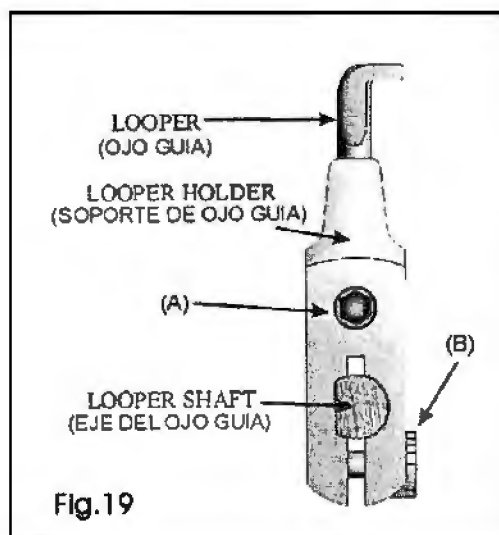

Fig.19
8. Remove the looper from the looper holder by loosening the set screw (A). (Fig.19)
10. Tighten the looper set screw (A) (Fig.19)